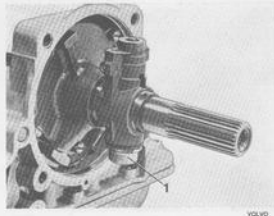

Fig. 4-104. Removing governor
33. Release the bolt (1) and pull the governor off the shaft, see Fig. 4-104.